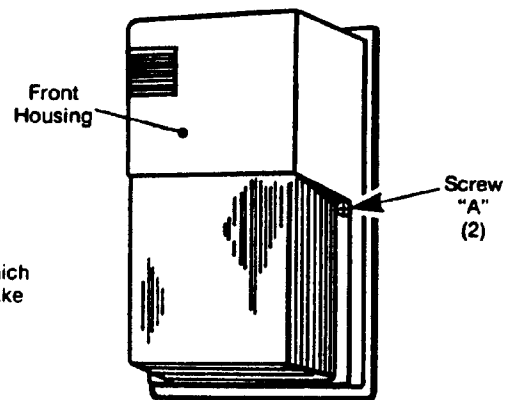

FIGURE 1
1. REMOVE FRONT HOUSING (Fig. 1)